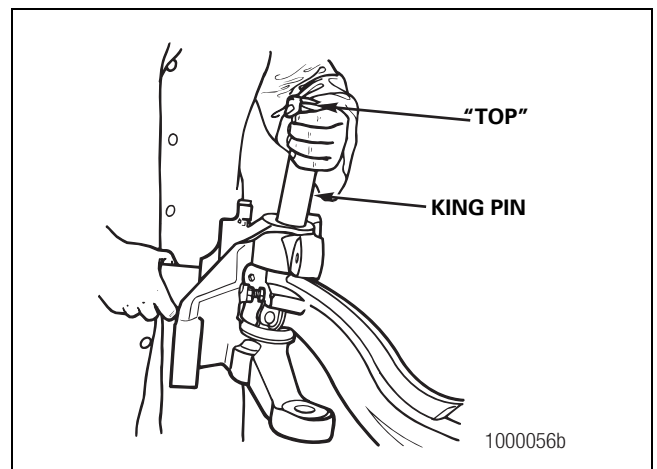

Figure 6.22
7. Verify that you can see the word "TOP," which is stamped on the king pin. Figure 6.22.